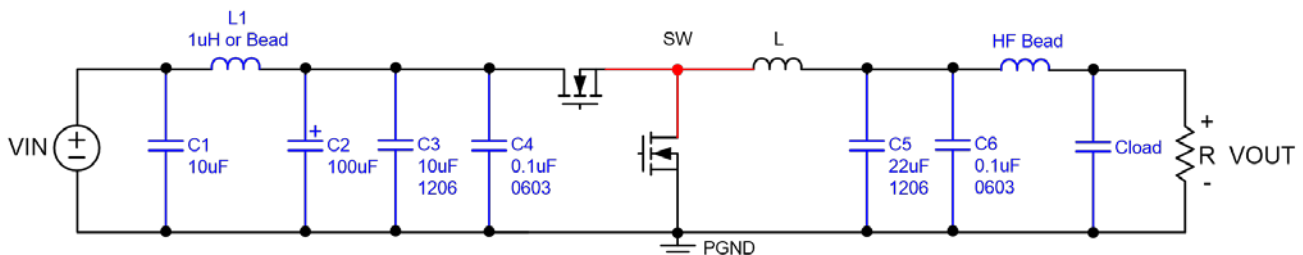

Figure 25. Input and Output Filters of Buck Converter
- ▶ As shown in Figure 25, to reduce ESR and ESL of capacitor and PCB, use low ESR MLCC types and multiple capacitors of different size like 1206, 0402 or 0603 size type close to the power loops of input and output.